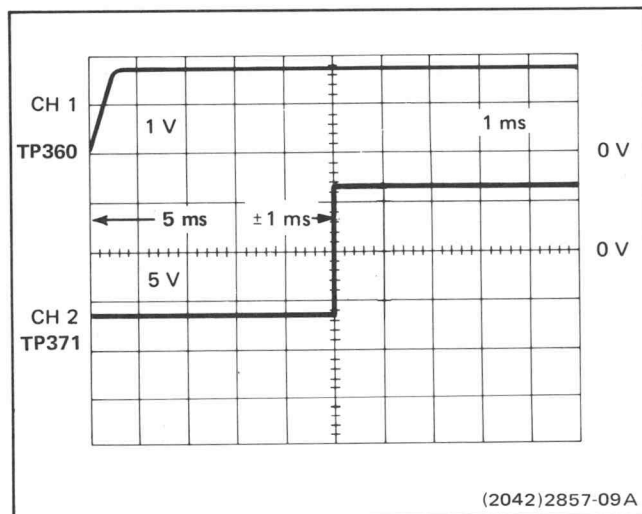

Figure 2-4. QRS Timing.
b. **CHECK**—Interval to first positive-going edge at TP360 is 5 ms, ± 1 ms (see Fig. 2-4).